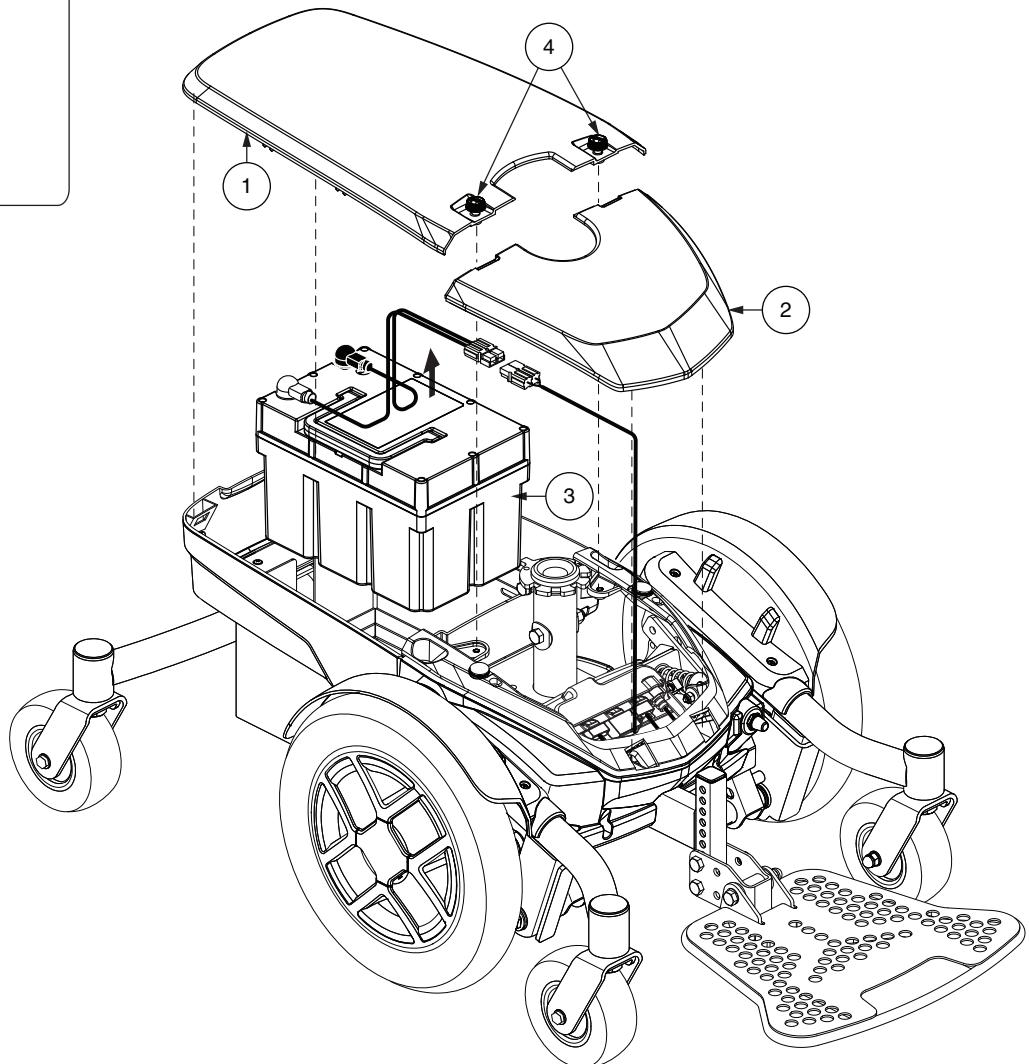

Figure 20. Lithium Battery Installation (Seat Removed for Clarity)
5. If equipped with two (2) SLA batteries, disconnect the rear battery harness from the power base and remove the battery. Slide the front battery rearward, disconnect the front battery harness from the power base, and remove the front battery. See **figure 19**. If equipped with a lithium battery, disconnect the battery harnesses and remove the battery. See **figure 20**.
8. For installation of a new lithium battery, place the battery into the power base. Make sure that the terminals are facing the rear of the power base. See **figure 20**. Connect the rear battery harness to the power base.